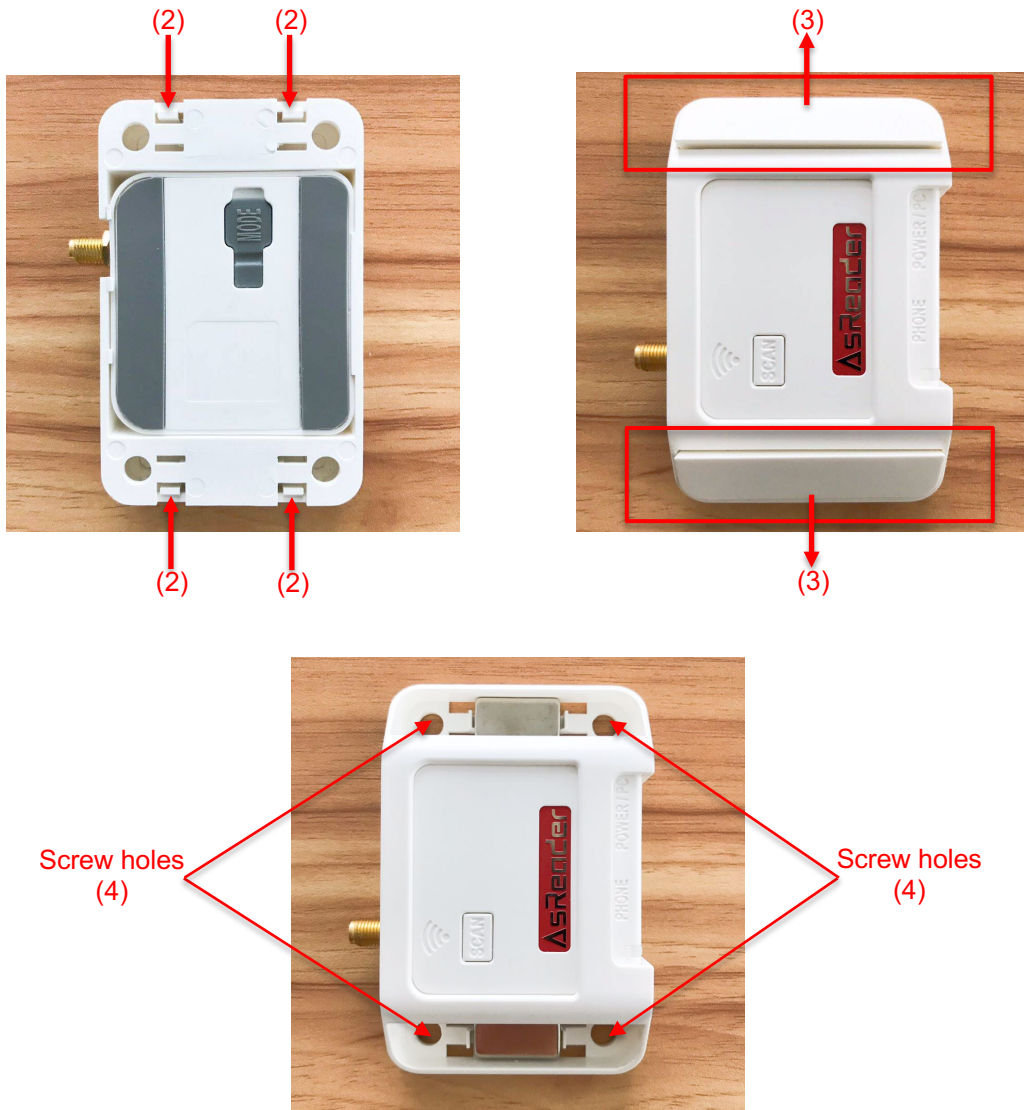

FIG. 5-5 Method of attaching ②
② Attached to a surface through the screw holes on the mounting frame. (see FIG. 5-5)